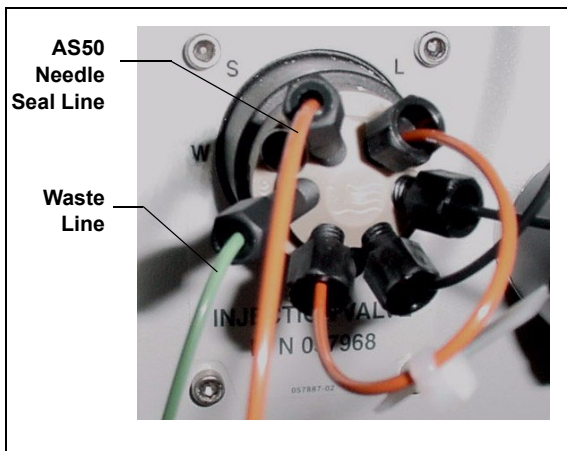
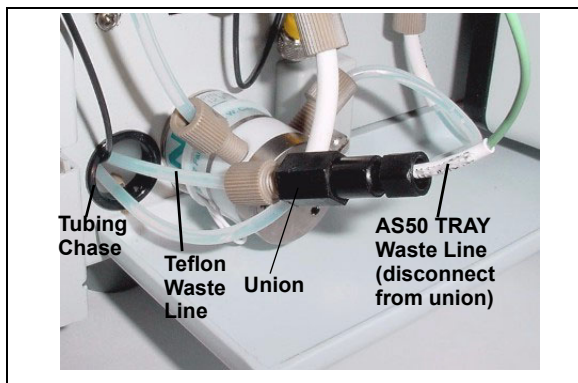

Figure 60. ICS-2000 Injection Valve
Figure 61. Injection Valve Waste Line Union
4. Connect the needle seal line from the AS50 to port **S (5)** on the injection valve (see Figure 60).
The green waste line that is connected to port **W (6)** on the injection valve (see Figure 60) is connected with a union to a Teflon waste line (see Figure 61) and routed through the tubing chase to the ICS-2000 rear panel.